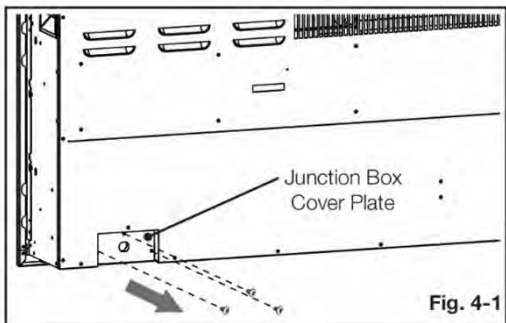

Fig. 4-1
- Remove the 3 securing screws from the junction box cover plate, located on the bottom left-hand, back-side of the appliance (Fig. 4-1).